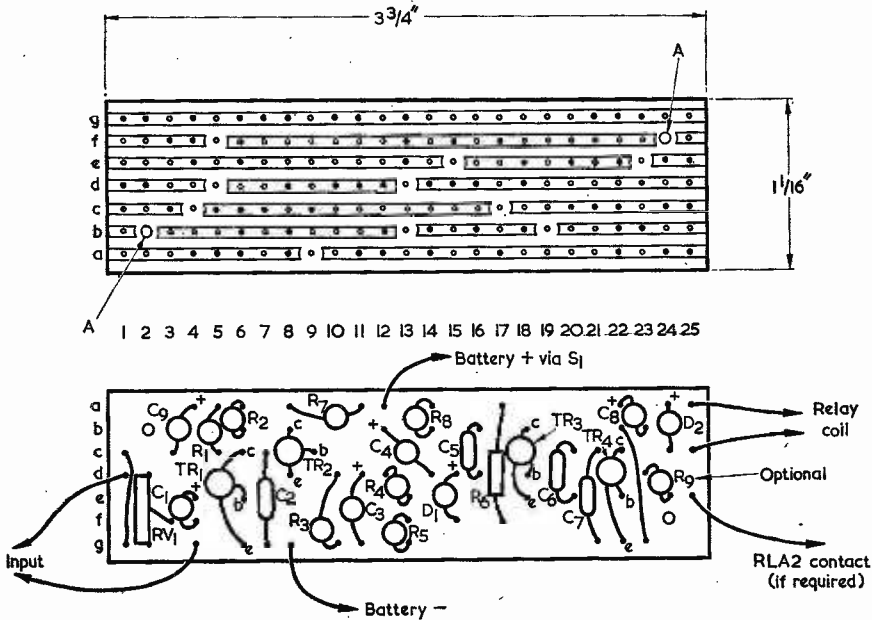

Fig. 2. Illustrating the copper and component sides of the Veroboard panel
- Veroboard, 0.15 in. matrix, $3\frac{1}{2}$ by $1\frac{1}{8}$ in. (see Fig. 2)
The unit is wired up on a small piece of Veroboard panel with 0.15in. hole spacing as shown in Fig. 2. Construction should be started by cutting this panel to size and drilling the two small mounting holes to clear 6BA screws. Next, break the copper strips, with the aid of a small drill or the special cutting tool that is available, in the positions shown.